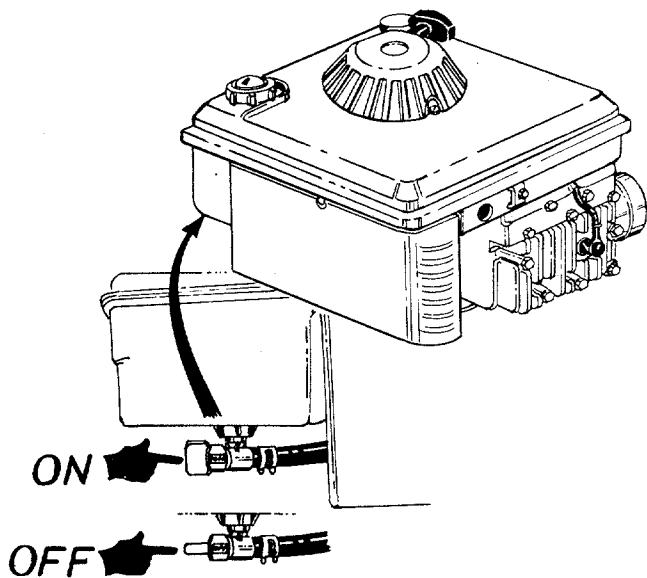

FIGURE 26.
Before assembling the top catcher panel and grass catcher to the unit, open the fuel shut-off valve on the engine. Refer to "Before Starting" section and figure 26 on page 13.
4. Open fuel shut-off valve, located beneath the fuel tank. See figure 26.